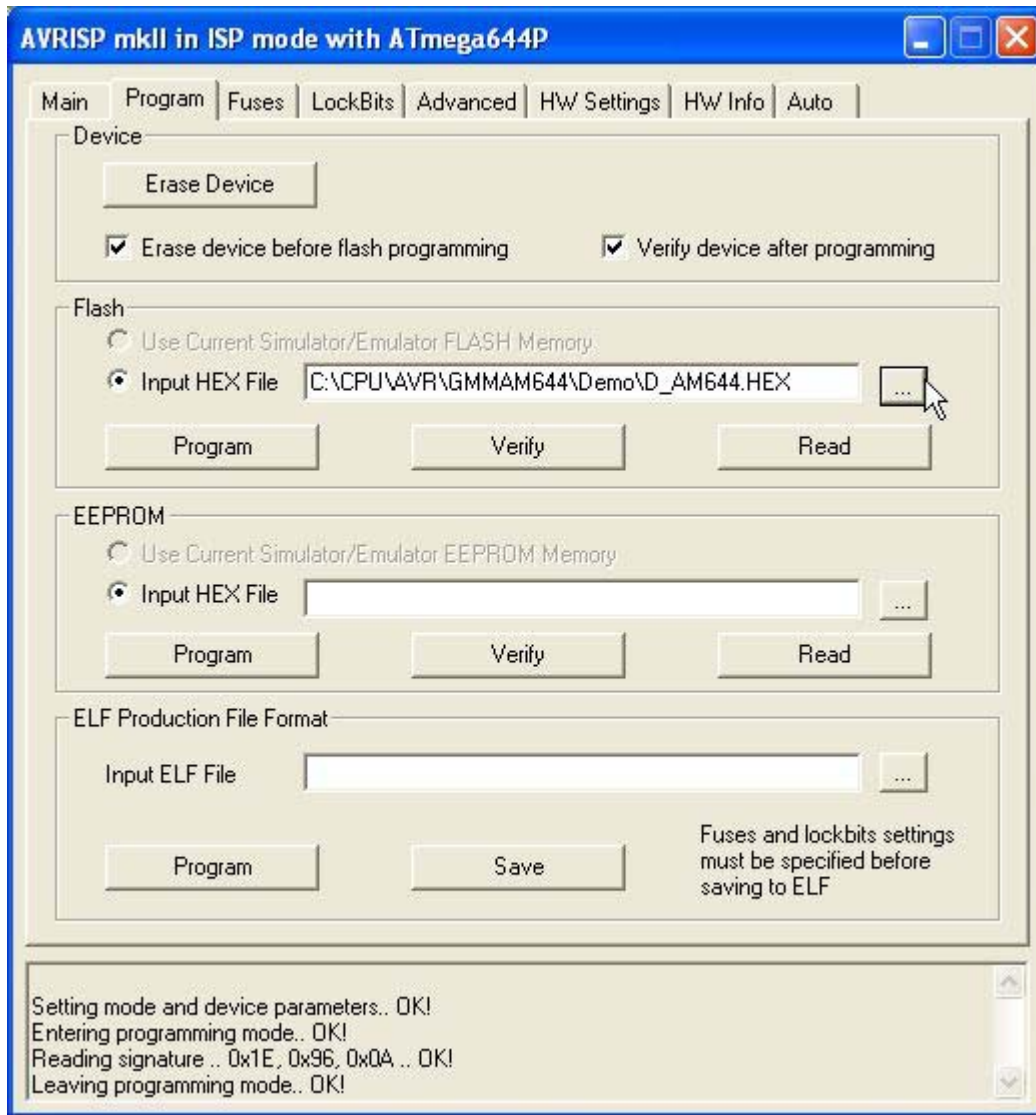

FIGURE D6: AVR STUDIO SETTINGS FOR AVRISP MK II (2 OF 4)
- j) In the *Program* window please execute the settings reported in the figure D6 and select the HEX file to program in the FLASH.
- k) In the *Program* window please execute the settings reported in the figure D6 and select the HEX file to program in the FLASH.